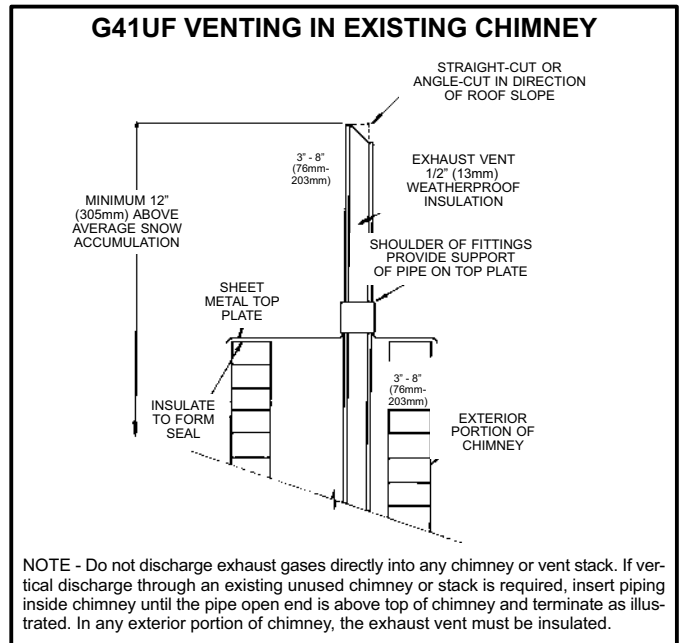

**FIGURE 21**
2. On field supplied terminations for side wall exits, exhaust piping should extend a maximum of 12 inches (305mm) beyond the outside wall for 2" (51mm) pipe, or a maximum of 20 inches (508mm) for 3" (76mm) pipe, unless support is provided in the horizontal section. See figure 21.